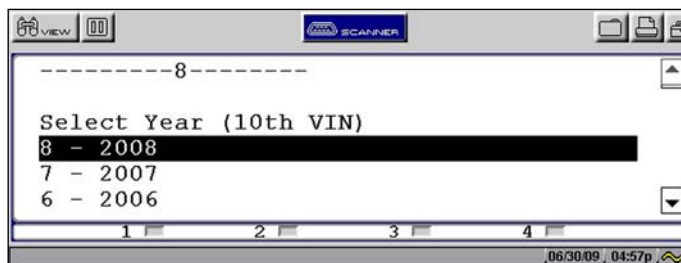

Figure 5-3 Sample Vehicle ID screen
1. Once the database loads, the first vehicle identification (ID) screen displays (Figure 5-3).